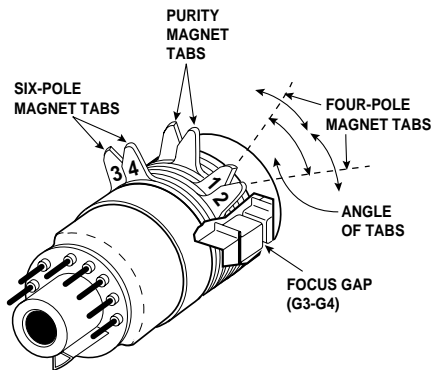

Figure 1. Purity and Convergence Magnets
1. Demagnetize the picture tube and receiver using an external degaussing coil. When replacing picture tube or deflection yoke, mount deflection yoke and purity-convergence magnets assembly properly, see figures 1 and 4.